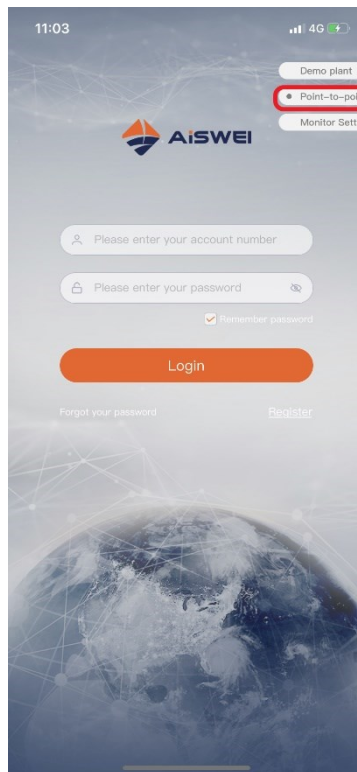

Figure 2-3-2 Wireless configuration
Step 2: After connecting the mobile phone to WIFI hotspot of the monitor device, open the APP to enter the homepage and click "Point-to-Point" on the top right corner. As shown in Figure 2-3-2.